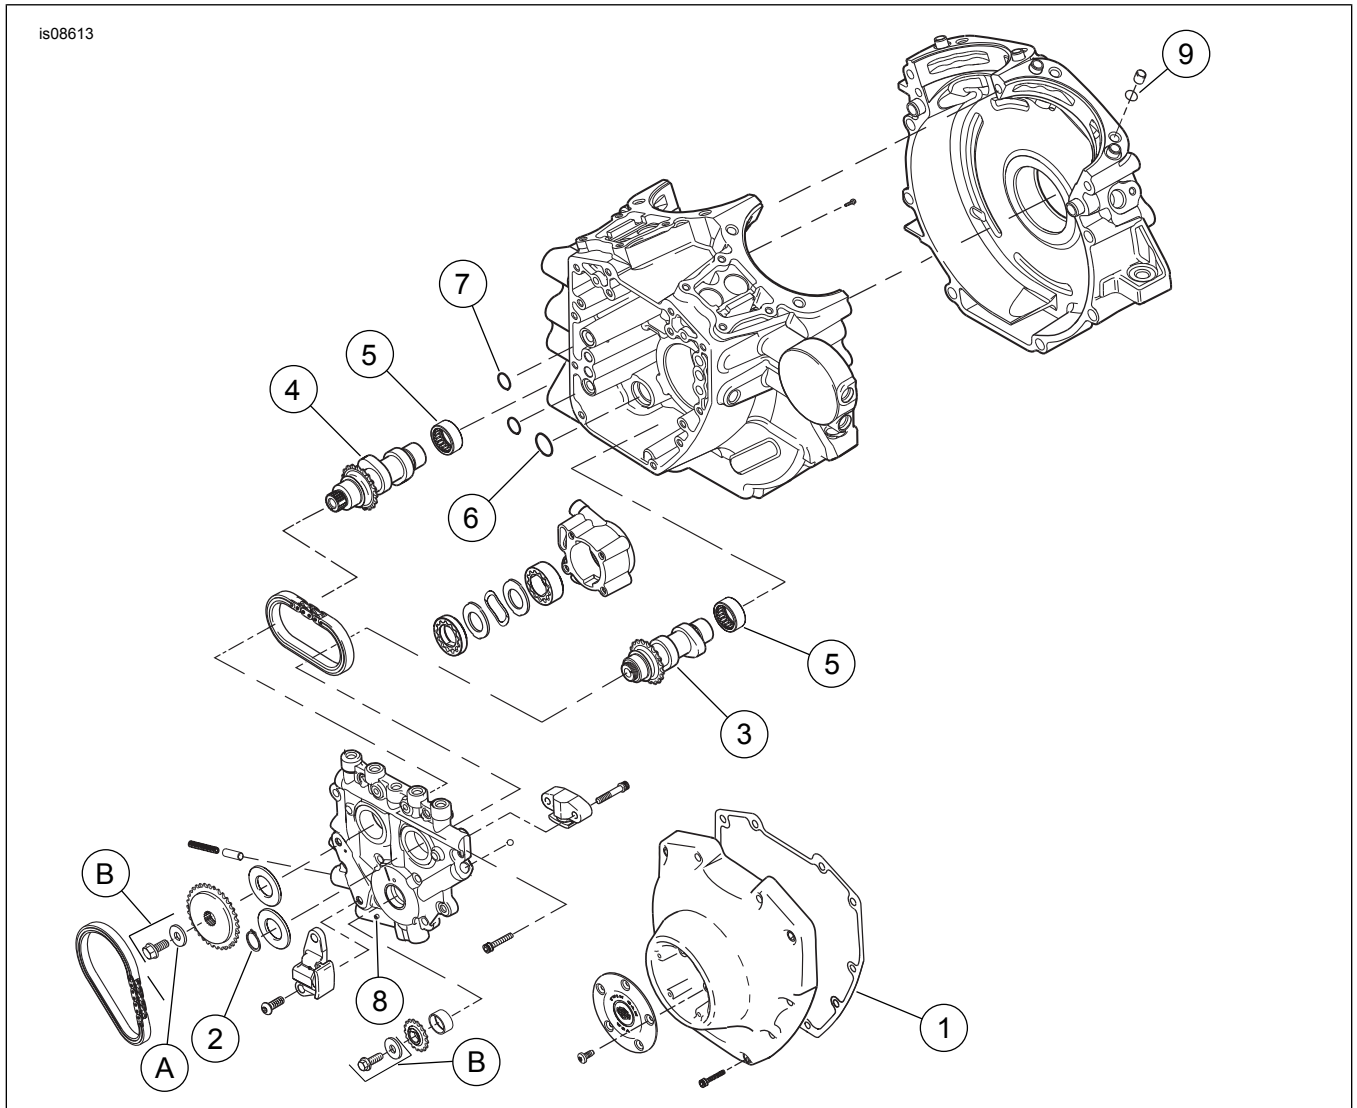

Figure 3. Service Parts: Screamin' Eagle Twin Cam 110 (1800 cc) Bolt-on Conversion Kit
1. See Figure 3. Install new inner cam bearings included in kit.